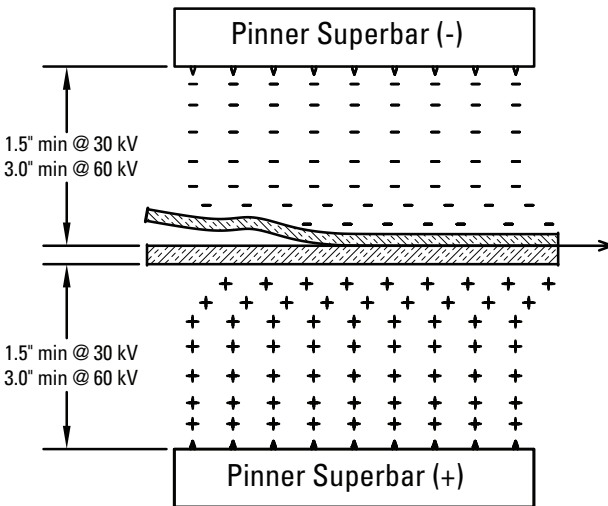

Figure 3
- Two Charging Bars** – In Figure 3, one charging bar faces another of opposite polarity in an application where decorative sheets are pinned to heavy particleboard prior to laminating. As the materials move between the charging bars, the opposite polarity ions created by each bar are driven toward each other by an electric field formed between them. The decorative sheets block ion travel through the field and become electrostatically charged. With this arrangement, the voltage differential between the charging bars can be substantial. The sizeable voltages cause higher levels of electrostatic adhesion. This method of charging materials is generally used in the most difficult pinning applications. Dual polarity BP-series power supplies are designed for applications like this.